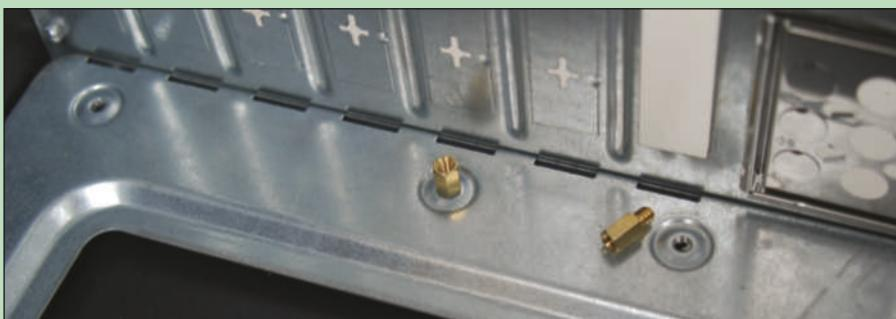

Figure 5-41 Spacers installed in case holes keep the motherboard from causing a short
8. Sophia purchases a new power supply and motherboard, and this time, carefully uses spacers in every hole used by the motherboard screws. Figure 5-41 shows one installed spacer and one ready to be installed. The system comes up without a problem.